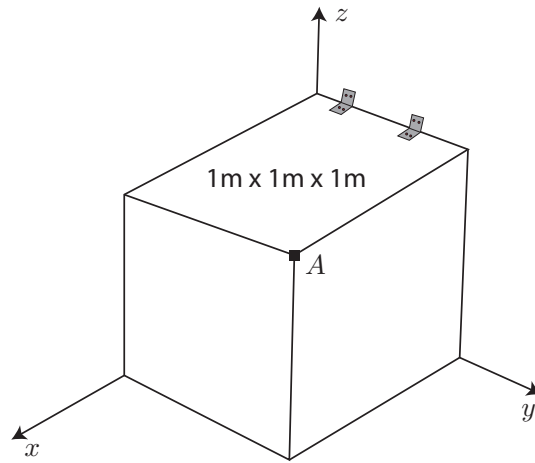

Figure 7: Problem 7.
7. Consider a unit cube subjected to a set of loads that can be characterized in a point A , $\mathbf{r}_{0A} = \mathbf{e}_x + \mathbf{e}_y + \mathbf{e}_z(m)$, by $\{\mathbf{R}, \mathbf{M}_R^{(A)}\} = \{2\mathbf{e}_x + 3\mathbf{e}_z(N), 5\mathbf{e}_y + 2\mathbf{e}_z(N \cdot m)\}$. The cube is supported by a set of hinges as shown in Fig. 7. Find the moment that the loads create to rotate the cube along the axis connecting the hinges.